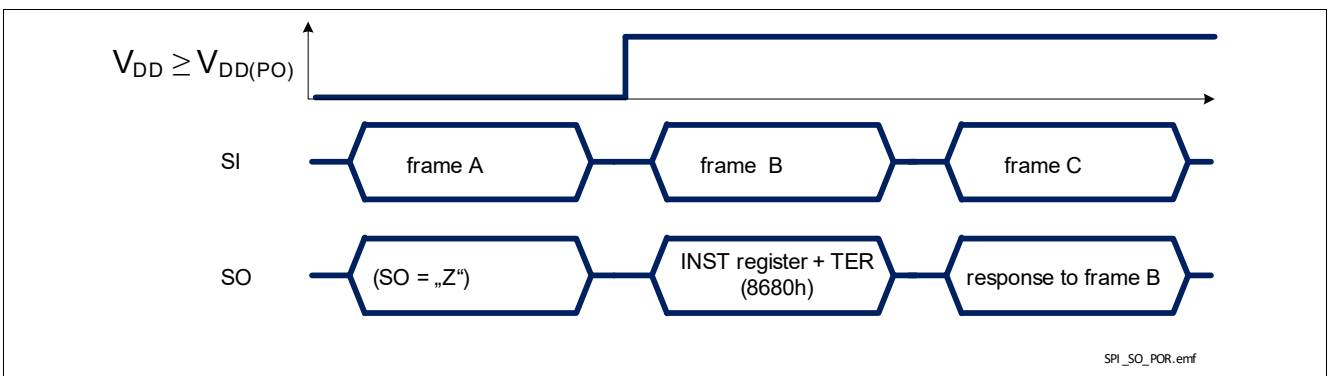

Figure 39 TLE75602-ESH response after coming out of Power-On reset at V_{DD}
- when TLE75602-ESH logic supply comes out of Power-On reset condition or after a Software Reset, as shown in **Figure 39**